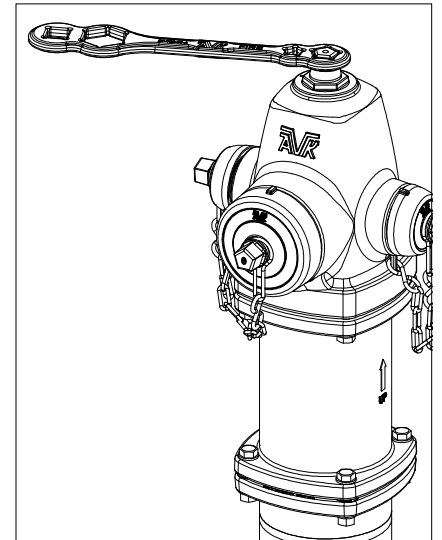

Fig. 7C
4. Remove the Operating Nut (F10) using the AVK operating wrench. Turn counterclockwise for "Open Left Hydrants", and clockwise for "Open Right", hydrants. Remove the Anti Friction Washers (F8), and set aside with the Operating Nut. (See Fig. 7C)